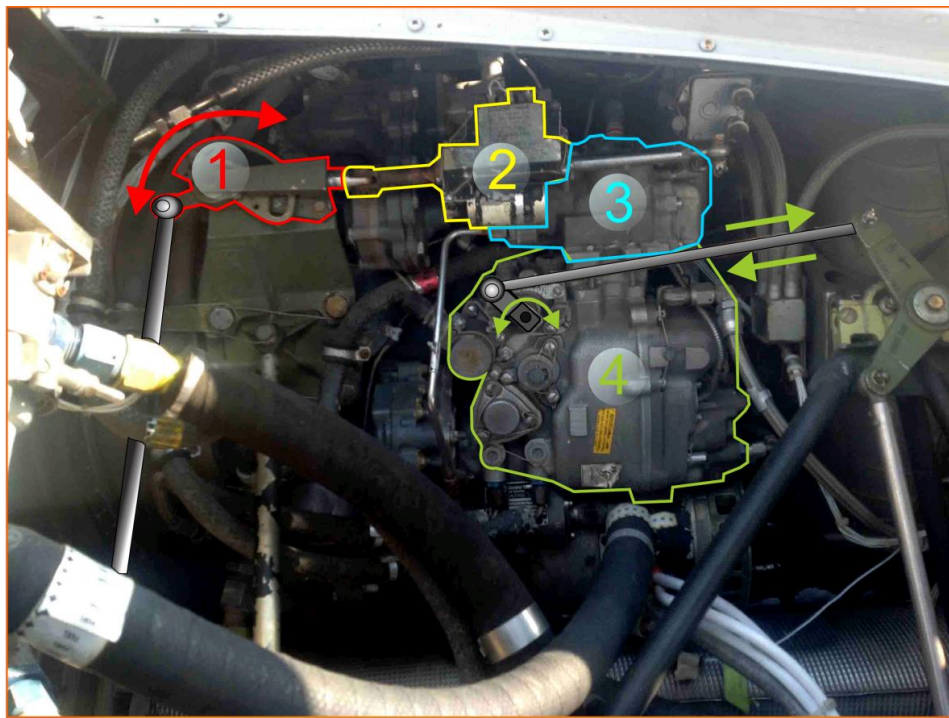

Figure 2.8. Engine-mounted components
- (1) The *METERING SECTION* (#4 in Figure 2.8) is driven at a speed proportional to N1 speed. It pumps fuel to the engine through
(2) The *COMPUTER SECTION* (also #4 in Figure 2.8) determines the rate of main fuel delivery by biasing main metering valve opening for N1 speed, inlet air temperature and pressure, and throttle position. It also controls the operation of the compressor air bleed and operation of the variable inlet guide vanes.
(3) The *OVERSPEED GOVERNOR* (#3 in Figure 2.8) is driven at a speed proportional to N2 speed. It biases the main metering valve opening to maintain a constant selected N2 rpm.
A droop compensator (#1 in Figure 2.8) maintains engine rpm (N2) as power demand is increased by the pilot. The compensator is a direct mechanical linkage between the collective stick and the speed selector lever on the N2 governor. No crew controls are provided or required. The compensator will hold N2 rpm to 6600 rpm when properly rigged. Droop is defined as the speed change in engine rpm (N2) as power is increased from a no-load condition. It is an inherent characteristic designed into the governor system. Without this characteristic instability would develop as engine output is increased resulting in N1 speed overshooting or hunting the value necessary to satisfy the new power condition.